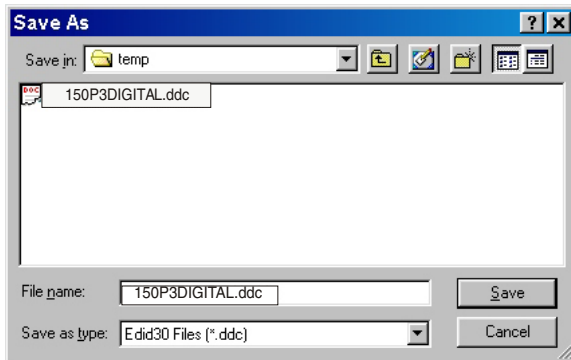

Fig. 23
1. Click (Save) icon (or click "file"-> "save as") from the tool bar and give a file name as shown in Fig. 23.